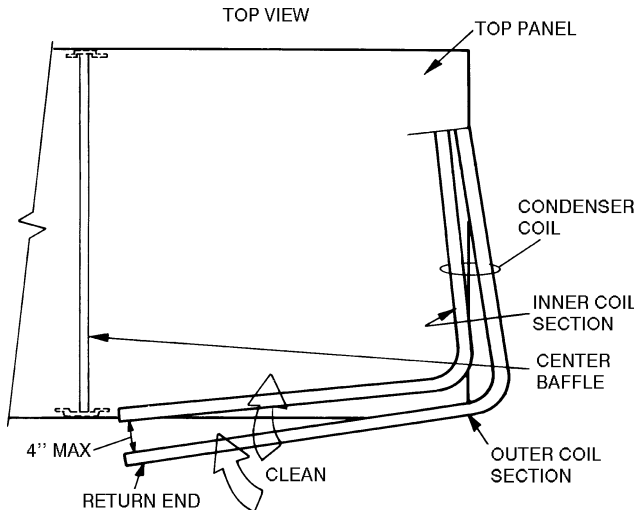

Fig. 46 — Separating Coil Sections
5. Remove fastener holding coil sections together at return end of condenser coil. Carefully separate the outer coil section 3 to 4 in. from the inner coil section. See Fig. 46.